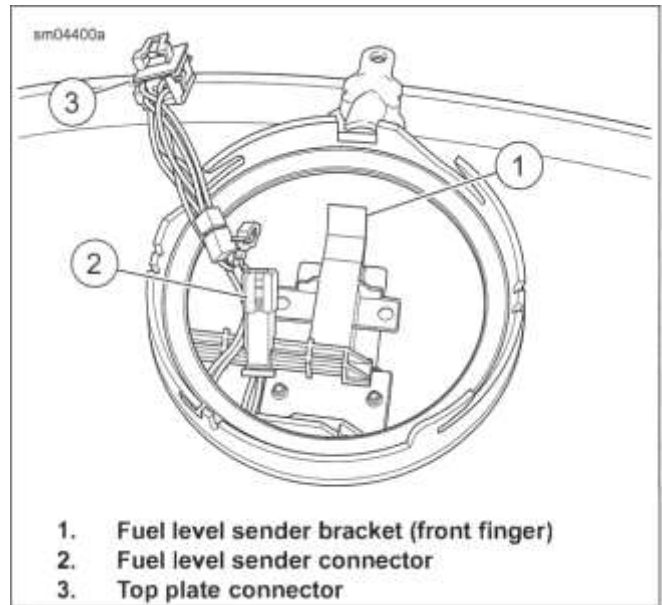

Figure 6-15. Front Finger (Fuel Level Sender Bracket)
See Figure 6-15. Look into fuel tank at bracketry. Note that finger (1) on front bracket points forward, while finger on rear bracket points rearward.
1. See Figure 6-15. With the finger on the fuel level sender bracket (1) pointing forward, install fuel level sender into left side of fuel tank.
3. Connect fuel level sender connector (2) to wire harness.